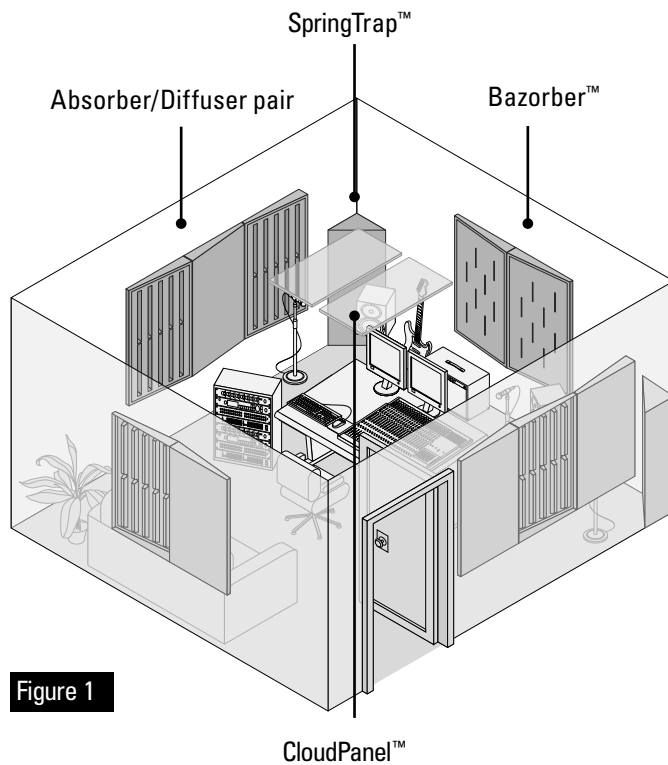

Figure 1
- Orient the panel so that the wedges follow the layout diagrams in figures 1 through 3.